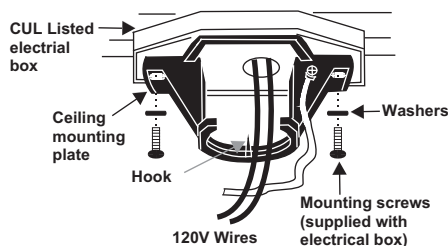

Figure 6
Step 3. Pass the 120-volt supply wires through the center hole in the ceiling hanger bracket as shown in Fig. 6.